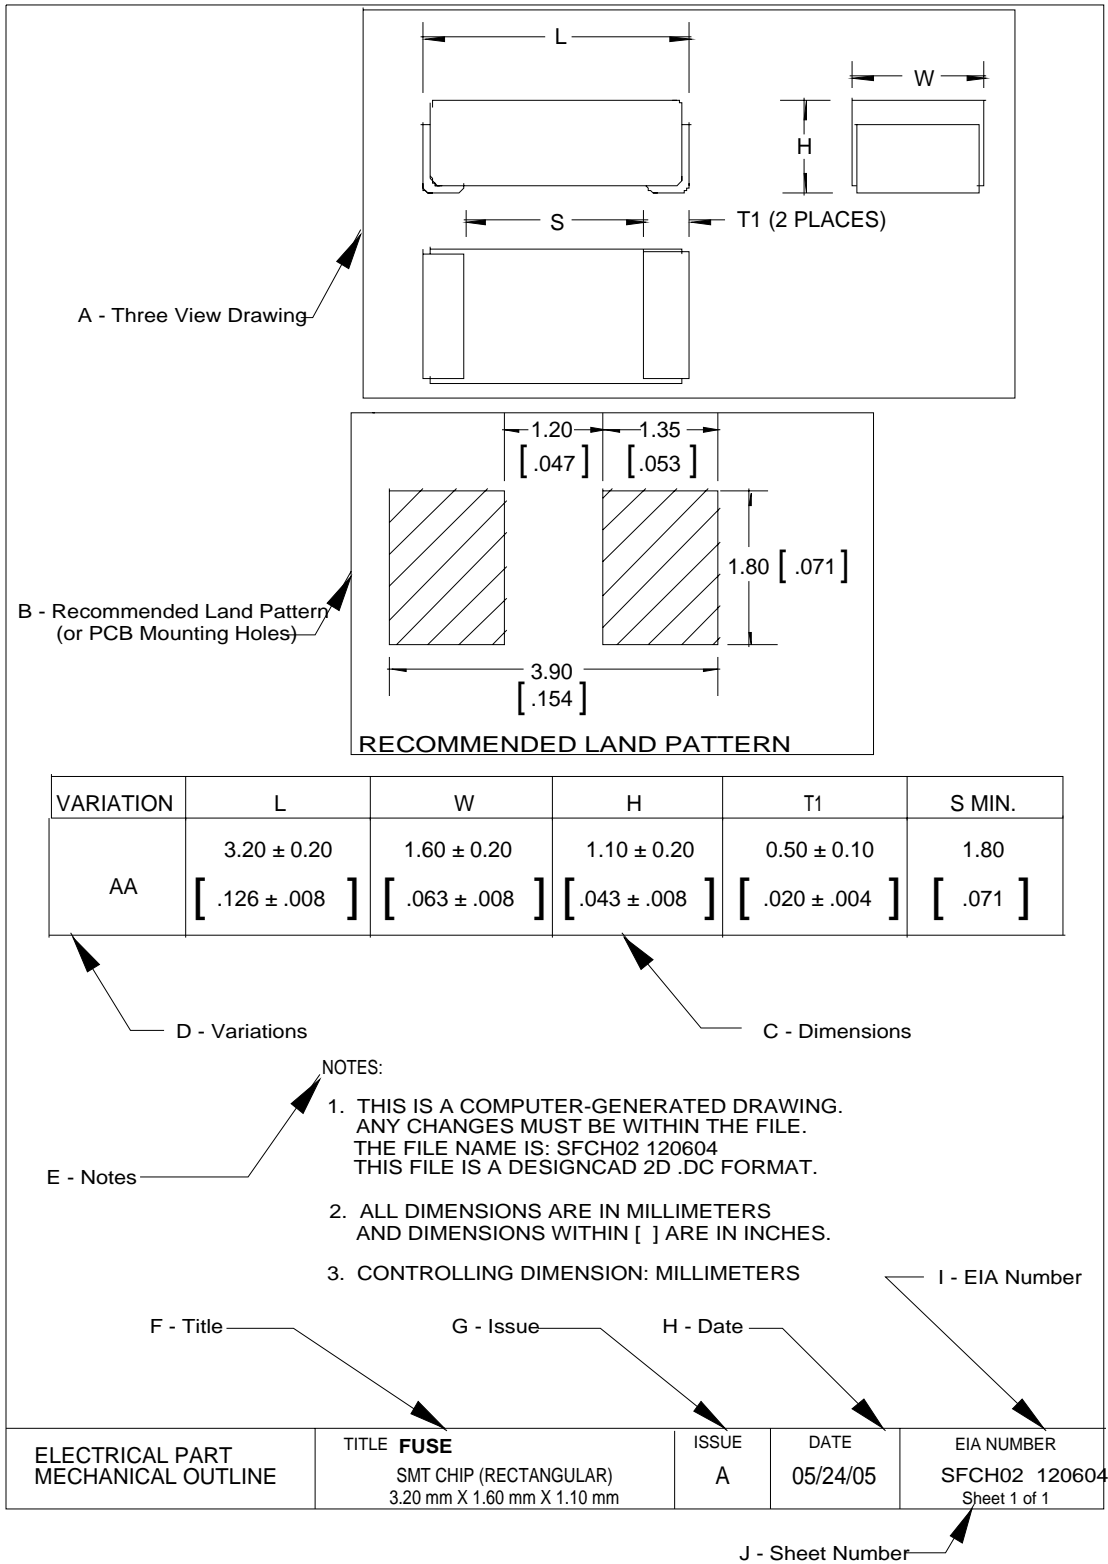

FIGURE 1
Several outline parameters are shown in Figure 1, following. The intent of these outlines is to provide only mechanical information for use by the design engineer without directly supplying the source of the device.
- 5.1 A three-view line drawing showing important dimensions for the device (Figure 1, A) shall be provided at the top of the Mechanical Outline.
- 5.2 A recommended land pattern for surface mount devices, or hole layout and dimensions for leaded devices, shall be located immediately below the three-view line drawing. (Figure 1, B) Note that the dimensions provided are only “recommended”. The end user may elect to deviate from the recommendations, provided they have adequate spacing for their application. Components not intended for surface mount or leaded connections (e.g. cartridge devices to be used in clips or holders) need not have a recommended land pattern.
- 5.3 Dimensions are always provided in a table (Figure 1, C) as letter references to the three-view line drawing. These dimensions will be provided as metric and [non-metric] values. Dimensions for the recommended land patterns, or hole layout, are provided on the drawings. (Figure 1, B)
- 5.4 Each “Variation” (e.g. AA, AB, AC, etc.) will provide specific component dimensions for an available device type. This is shown in Figure 1, D. The nominal values may be equivalent, but there may be differences in the tolerances. Or, there may be slight differences in the nominal values and tolerances. If the number of “Variations” exceeds the space available on the first page of the Mechanical Outline, an additional page will be added. (Figure 1, J) The EIA Drawing Number (Figure 1, I) will remain the same for all pages of the same Mechanical Outline.
- 5.6 The Title (Figure 1, F) shall consist of a brief description (including component type) of the package being presented.
- 5.7 Both the Mechanical Outline Issue (Figure 1, G) and Date (Figure 1, H) will be assigned by the P-4 Committee upon acceptance.